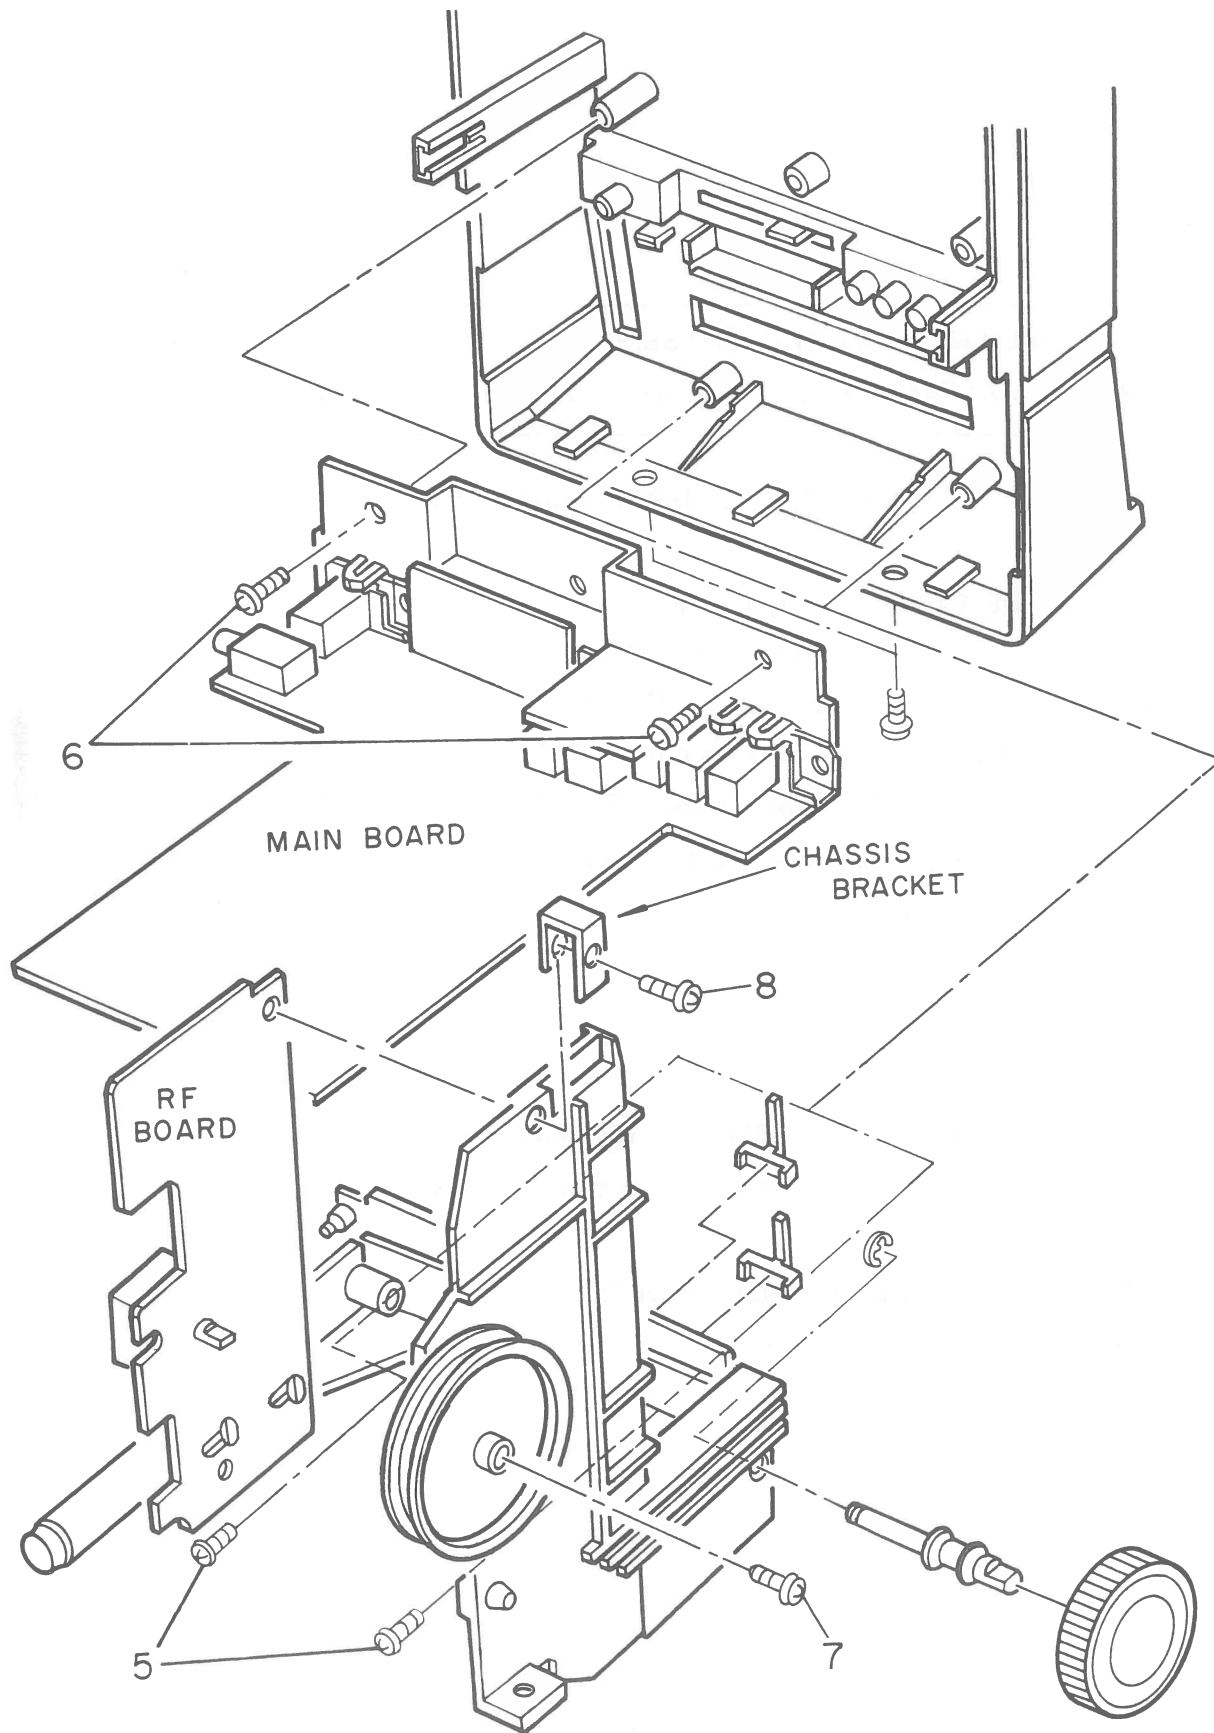

Figure 22
MAIN AND RF BOARD REMOVAL (See figure 22)
1. To separate the chassis from the front case, remove the two screws (Figure 22 Reference 5).
2. For main board removal, remove two screws (Figure 22 Reference 6).